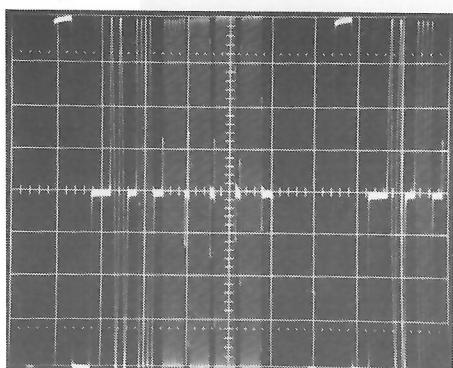

Fig. 17-2 L1, L2 correctly adjusted. C33 to max.
- Select "FULL-FIELD mode, line 17 (A)/NTC-7 COMP.
- Select "FULL-FIELD" mode, line 18 (B)/NTC-7 COMB.
- Adjust L1 and L2 in such a way that the multiburst frequencies form a straight line (from lowest freq. to highest freq.) and minimum spikes; refer to fig 17-2.